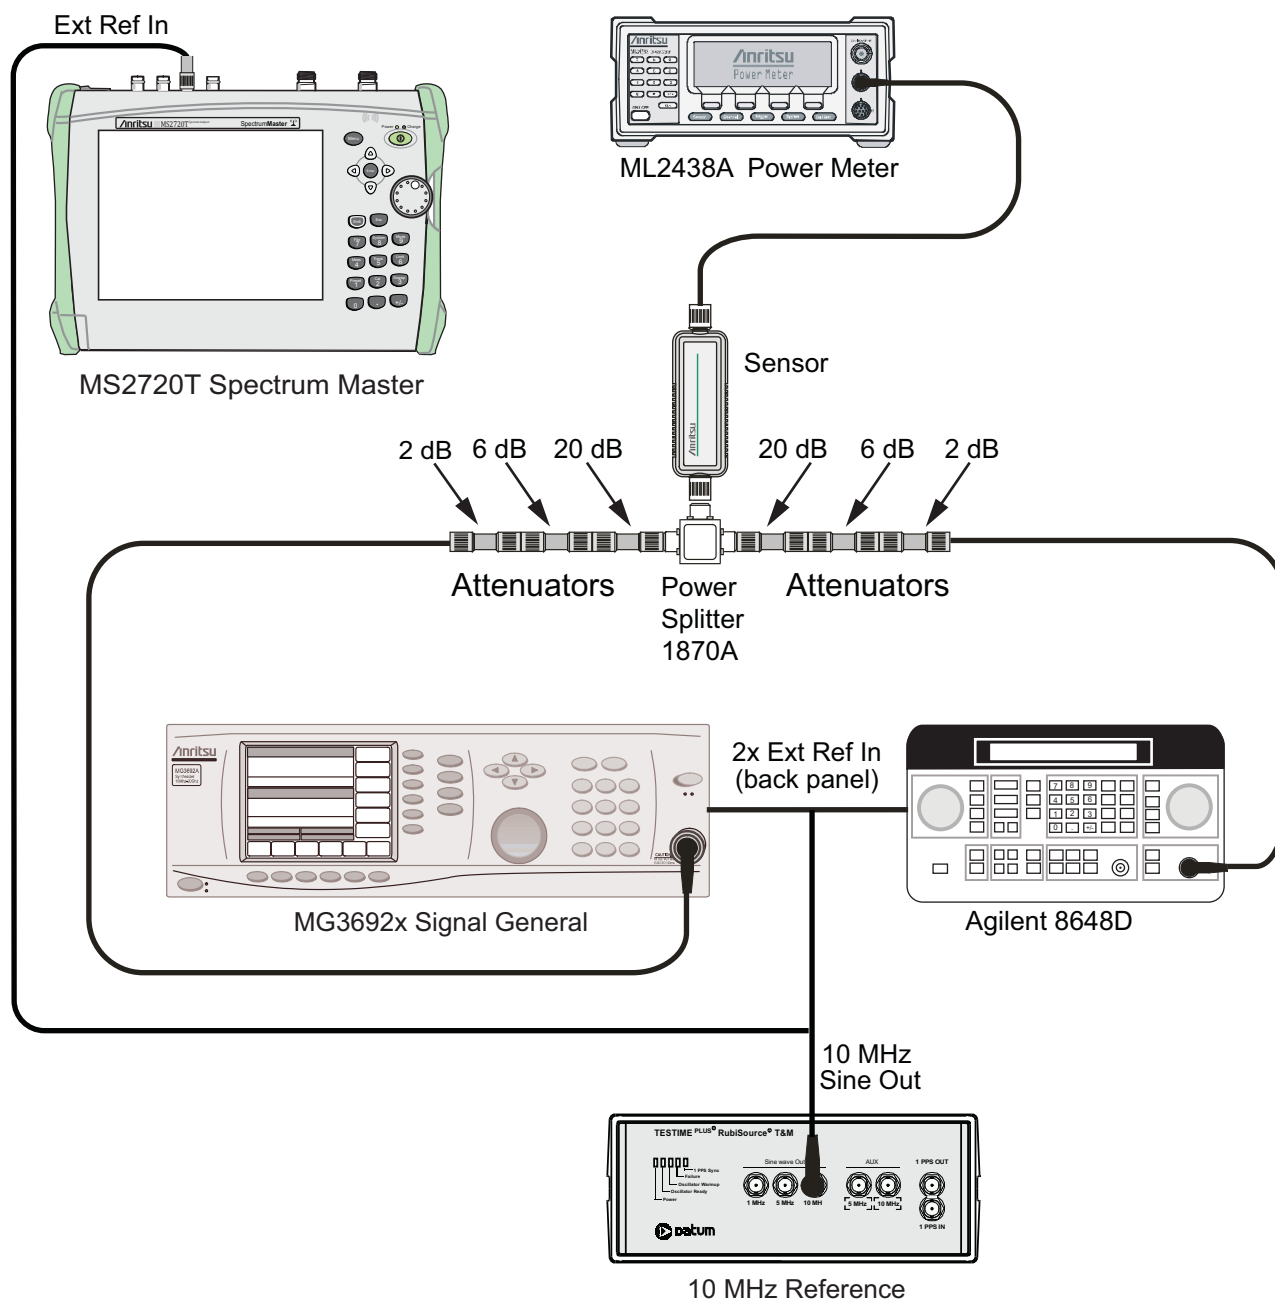
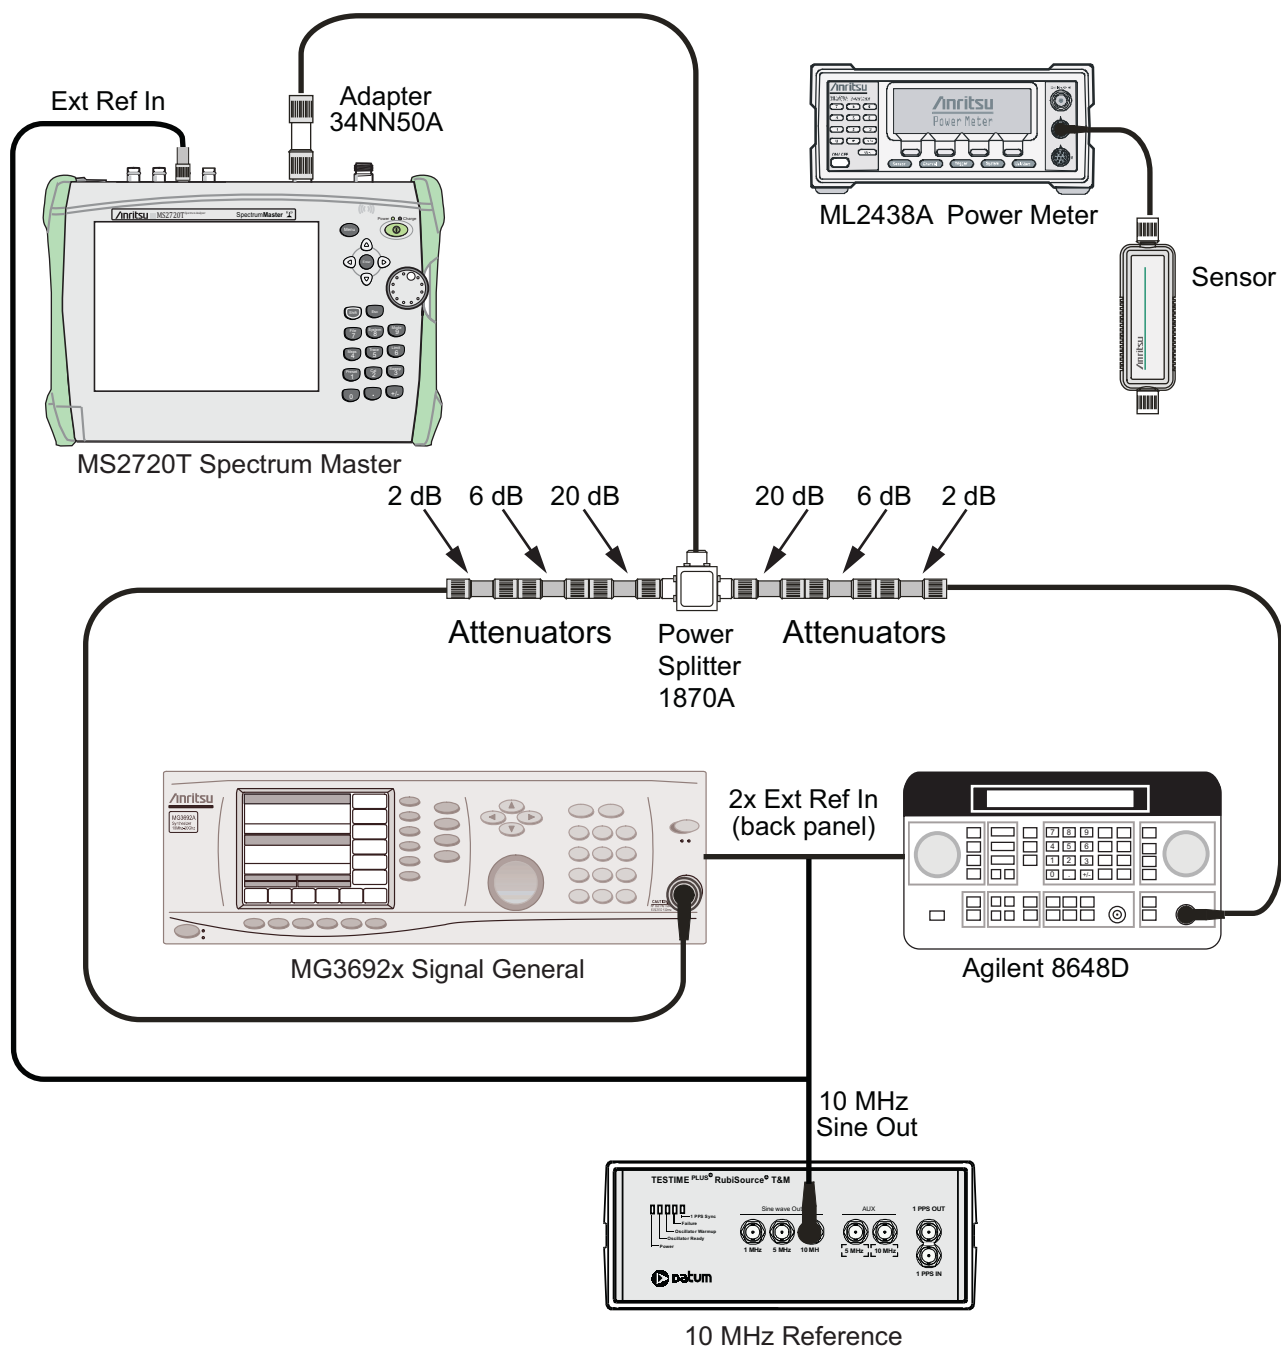

Figure 2-5. 2400 MHz TOI Verification Characterization, Component Characterization Setup
Figure 2-6. 2400 MHz TOI Verification, Test Setup
1. Connect the equipment as shown in Figure 2-5. The splitter will be used as an RF combiner (the normal RF outputs will become inputs, and the normal input will become the RF output).
8. Set the MS2720T to Spectrum Analyzer mode and then Preset the instrument. Press the **Shift** key, the **Sweep** (3) key, **Sweep Mode** submenu key and then the **Performance** submenu key.
10. Press the **Shift** key and the **Sweep** (3) key. Press **Detection**, and press **RMS** (a red dot appears on the label).
11. Disconnect the power sensor from the output of the splitter and connect the splitter output to the MS2720T Spectrum Analyzer RF In connector through the Anritsu Model 34NN50A or 71693-R adapter (Figure 2-6 on page 2-26).
13. Press the **Shift** key and then the **Trace** (5) key. Press **Trace A Operations**, and set # of Averages to 2.